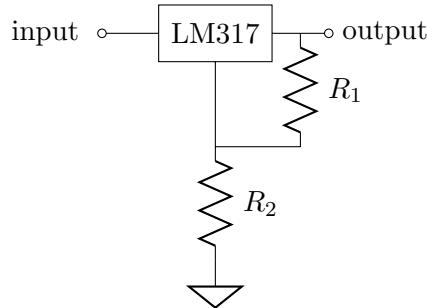

Figure 3: LM317 linear regulator circuit.
- b) For the circuit of Fig. 3, with an input voltage of 9V and $R_1=510\Omega$, what's the value of R_2 such that the output voltage is 5 V? What is the efficiency of the regulator in this case? “LM317” refers to the Texas Instruments LM317 voltage regulator IC. You should be able to find its datasheet online.